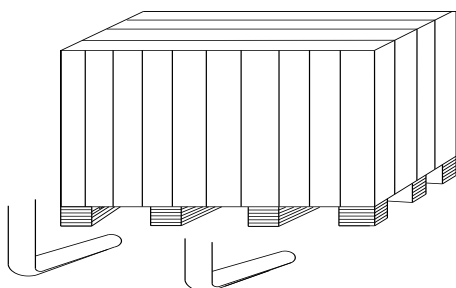

FIG3
4.1.1 After being sure that the package of your machine is perfect, you can carry the wheel balancer to the installation site. (Fig3). The choice of the installation should comply with the following requirements. The ambient temperature is 0°C-50°C and the RH ≤85%. And the installation site as shown in Fig4